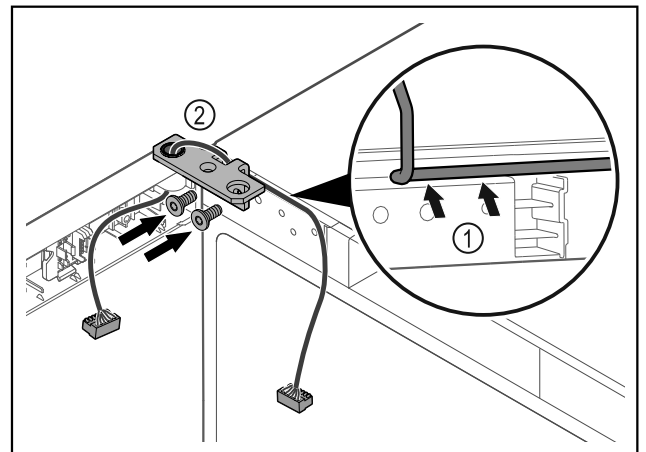

Fig. 44
- Feed the cable through the recess in the hinge and lay it carefully Fig. 44 (1).
- Screw on the hinge Fig. 44 (2).